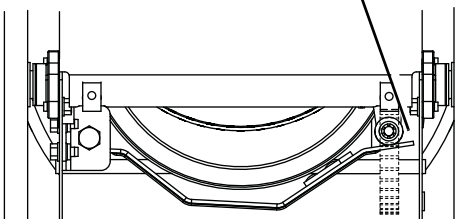

Figure 26
2. With the clutch lever engaged, check the clearance between the frame and plastic roller on the lower end of the attachment idler arm. See Figure 26.